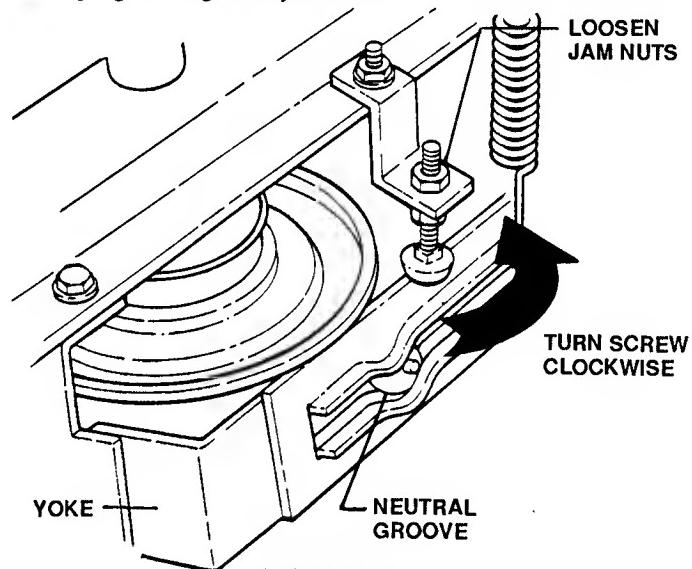

FIGURE 37
If rubber on driven disc ring wears enough to cause loss of traction, readjust the yoke stop (see Figure 37) to restore good contact. With engine "OFF" and drive shifted into "NEUTRAL", loosen the jammuts and turn the bolt clockwise about two(2) turns. Check to see that rubber ring turns freely in the center or "NEUTRAL" groove - turn bolt in more if needed to achieve this, then secure bolt by tightening both jammuts.